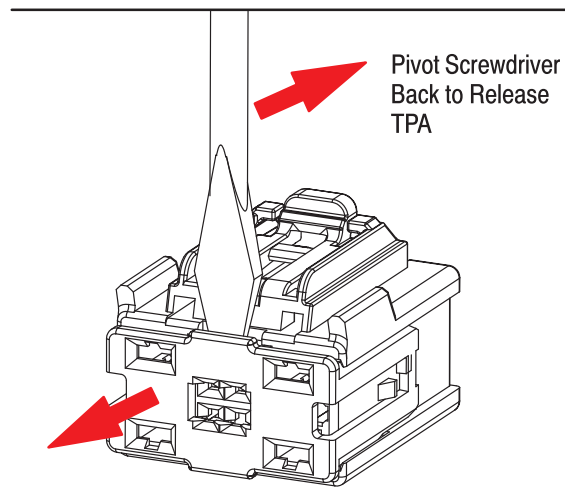

Figure 2
1. Tyco Electronics recommends placing a flat-bladed screwdriver with a 3.0–5.5 mm [.118–.217 in.] width in the gap between the housing and behind the tab on the TPA. See Figure 2.